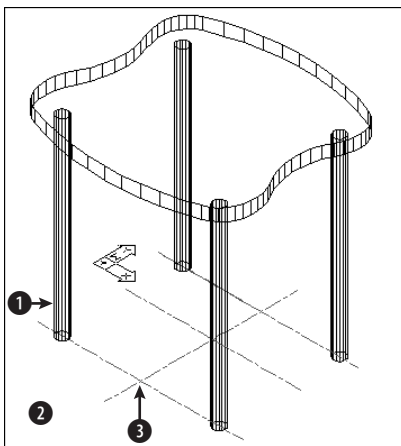

Figure 21-18: Part of a 3D chair
11. To see the result, type **hide** ↵. Remember that the polyline has no top or bottom surface. Imagine your model as a glass-bottomed chair. It should look like Figure 21-18.
12. Choose Tools ⇨ Inquiry ⇨ List. Select the front left leg at ❶ in Figure 21-18. Press Enter. The center (of the circle at the bottom of the leg) is X= 3.5000; Y= -7.0000; Z= 0.0000.
15. Choose Tools ⇨ New UCS ⇨ View. AutoCAD places the UCS parallel to your current view. Choose Draw ⇨ Text ⇨ Single-Line Text. Start the text at ❷ in Figure 21-18. Set the height to 1.0 and the rotation to 0. Type **A glass-bottomed chair**. Press Enter twice to end the command.
16. Choose Tools ⇨ New UCS ⇨ Object. Pick the line at ❸. Choose Tools ⇨ New UCS ⇨ Origin. Type **0, 0,17** as the origin to place the UCS at the top of the seat.